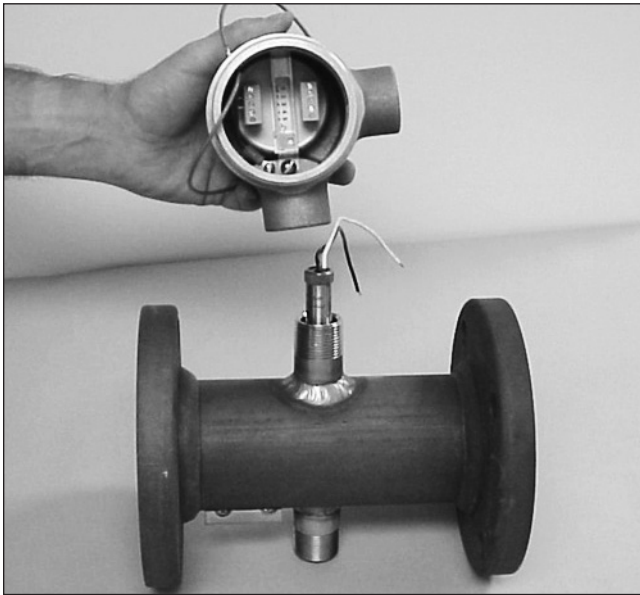

Figure 1
4. Remove junction box from meter by turning counterclockwise, Figure 1.